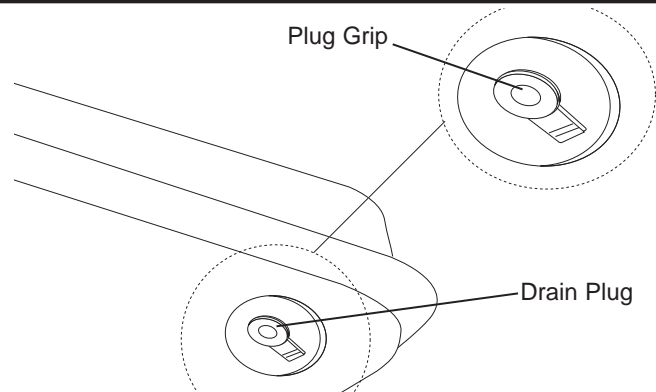

Figure 11. Drain Plug Removal
2. To remove the Drain Plug (135/190/215), pull the Plug Grip downward and remove seal head from drain hole in tank (See Figure 11).